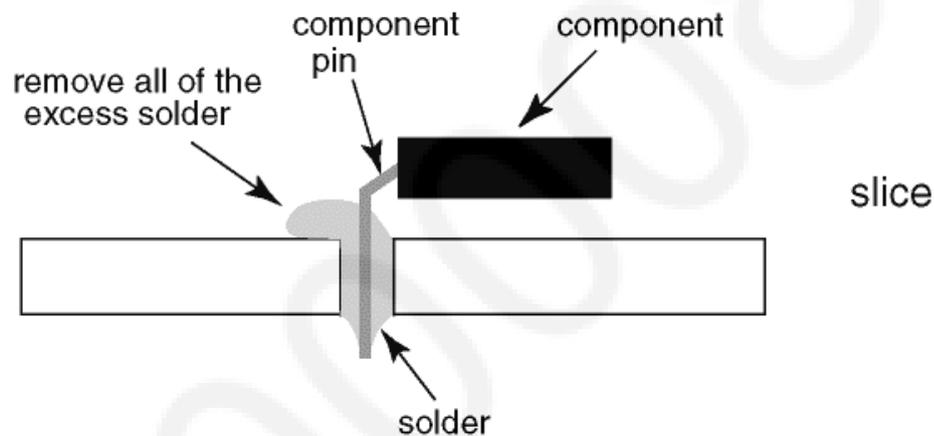

Fig.2
- After applying PbF solder to double layered boards, please check the component side for excess solder which may flow onto the opposite side. (see Fig.2)